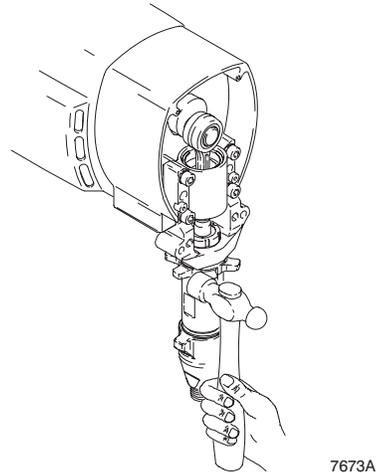

Fig. 15
4. Fig. 15. Loosen locknut by hitting firmly with a 20 oz (maximum) hammer. Unscrew pump.